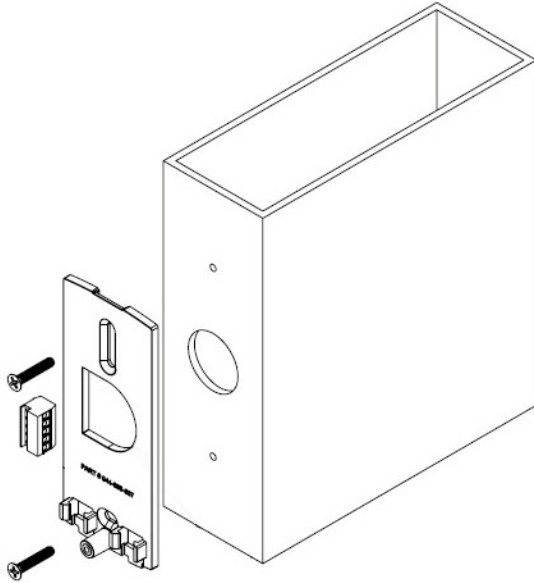

Figure 1-3 Mounting Plate Installation - Mullion
- Figure 1-3 Mounting Plate Installation - Mullion4